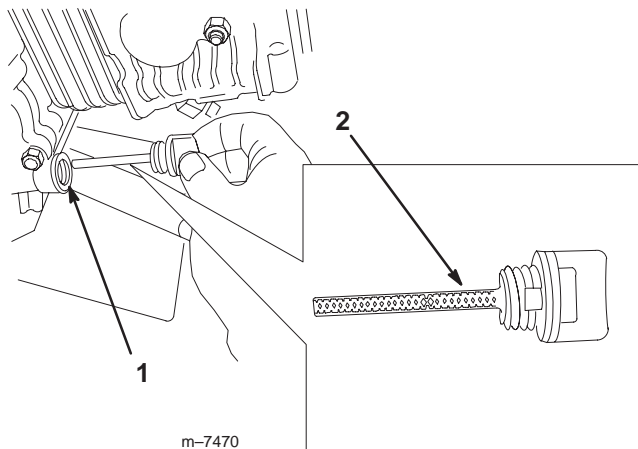

Figure 5
3. Clean around the oil dipstick (Fig. 5).
4. Remove the dipstick and wipe the end clean (Fig. 5).
5. Slide the dipstick fully into the dipstick tube without threading it into the filler neck (Fig. 5).
7. If there is no or little oil on the dipstick, add 10w30 engine oil to the filler hole until it comes to the edge of the filler hole (Fig. 5 and 6).